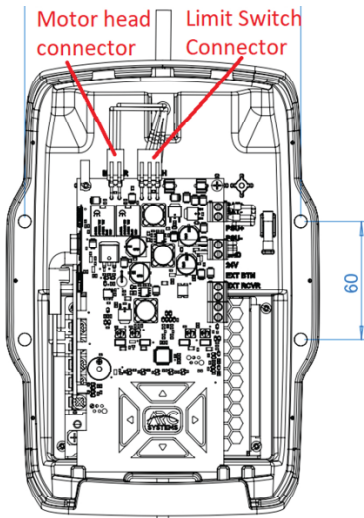

Figure 6
- Connect limit switch connector (3-way connector) (See Fig 6)